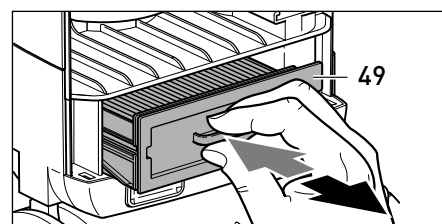
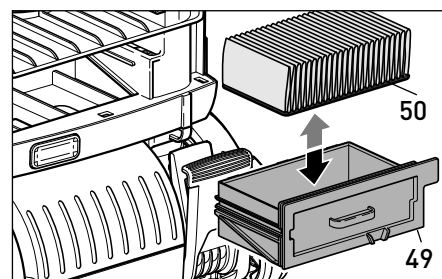

Figure 19
Figure 20
Changing the Exhaust Microfilter - Figures 19 & 20
After 20 bags have been used, change the exhaust filter. To change the exhaust filter, remove the bag housing cover (24) by pressing the cover release button (19) and lifting the cover up and out. Grasp the handle on the orange filter holder (49 - figure 19) and pull it out. Pull the filter out of the holder. Insert the new filter rubber-gasket-side-down (50 - figure 20) into the holder and re-insert the holder. Replace the bag housing cover and snap it in place.